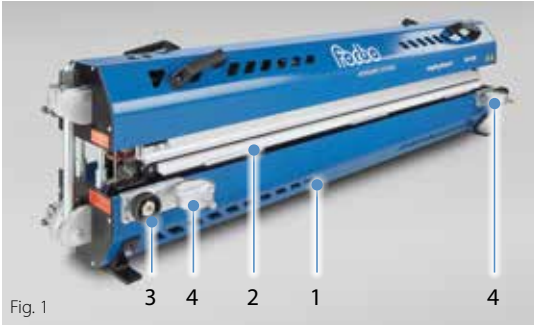

Fig. 1
- Put the bottom half of the press (1) in position (ensuring it's in a stable position and at a height safe to work at, without a belt holder and inlays). (Fig. 1)
- Turn the two belt set screws (3) to put the infeed unit (2) in the starting position. (Turn them tightly towards Open until they go no further). (Fig. 1)
- Turn the two dial gauges (4) to zero. (Fig. 1)